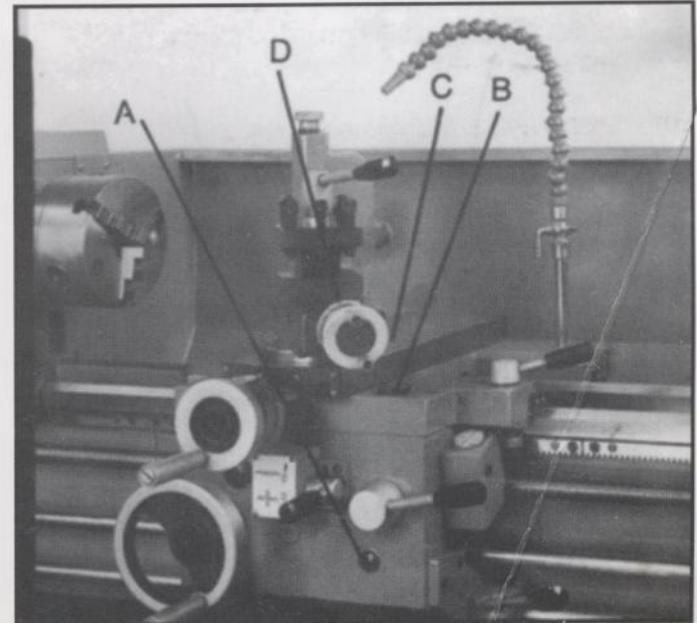

Fig.5
- Apron**-Oil must be up to indicator mark in oil sight glass (front of apron-A,Fig.5). Top off with Shell Turbo T-68 or equivalent. Remove oil cap(B,Fig.5) on top of apron to fill. To drain, remove drain plug on bottom of apron. Drain oil completely and refill after the first three months of operation. Then, change oil in the apron annually.
- Cross Slide**-Lubricate three oil ports(C, Fig.5)with 20W machine oil once daily.
- Compound Rest**-lubricate one oil port (D,Fig.5)with 20W machine oil once daily.